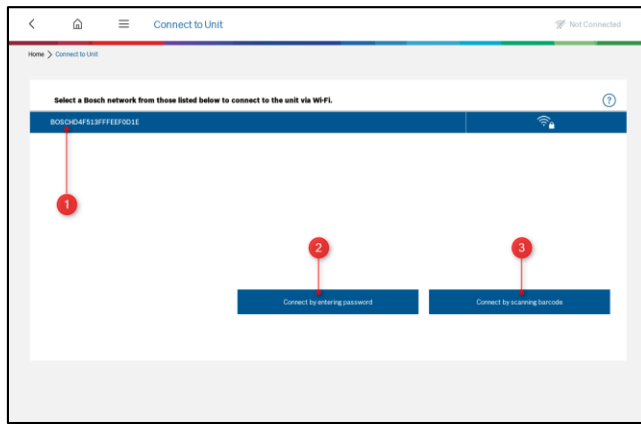

Figure 16: Wi-Fi List
2. Once the user taps the continue button, the app will redirect to a page that lists available Bosch Wi-Fi networks. See Figure 16.